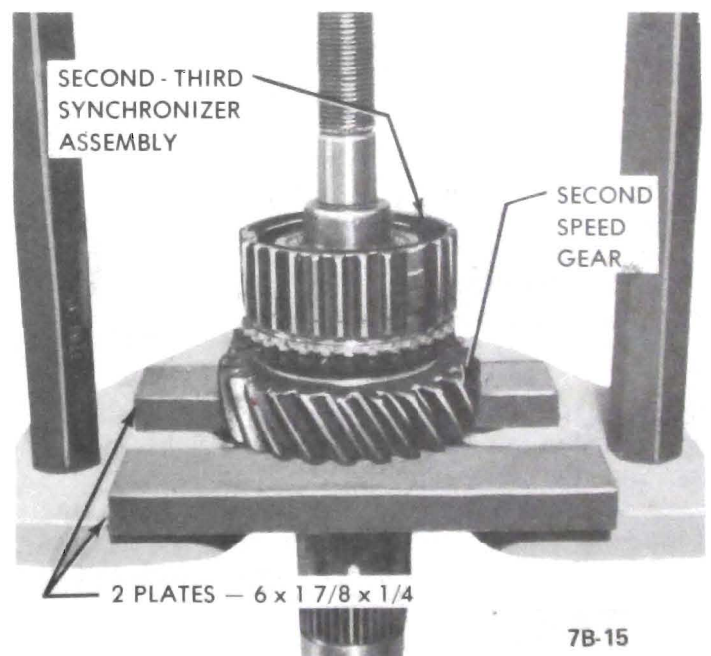

Figure 7B-15 - Removing Second-Third Speed Synchronizer Assembly
8. Support second speed gear on press plate using two (2) pieces of stock 6x1-7/8x1/4. See Figure 7B-15. Remove second-third speed synchronizer assembly and second speed gear.